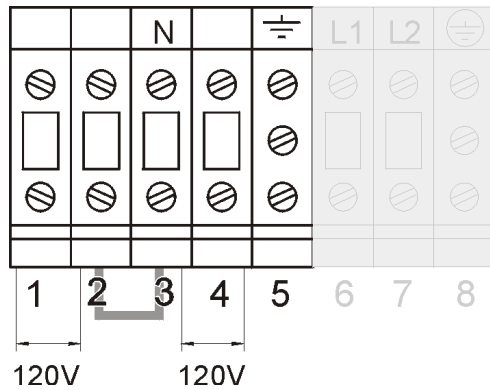

Figure 13. LP11 924 6&10 kVA: 120 Vac split-phase output connection
2. Connect the load wires between the terminals 1 (L1) and 2 (N) (120V), and between the terminals 3 (N) and 4 (L2) (120V). Connect the ground wire to terminal 5. Ground connection is essential! Do not remove the insertion bridge between terminals 2 and 3. See figure 13.